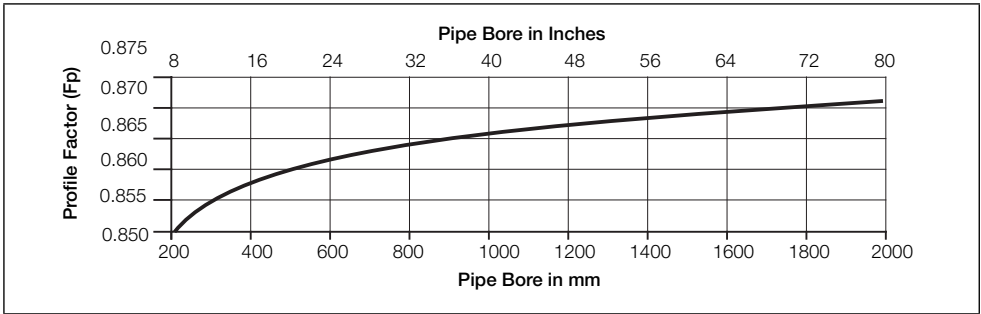

Fig. 5.1 Profile Factor vs Velocity for Pipe Sizes 200 to 2000 mm (8 in to 80 in.)
2. Determine the profile factor F_p from Fig.5.1.
F_p = 0.861 (derived from Fig. 5.1)